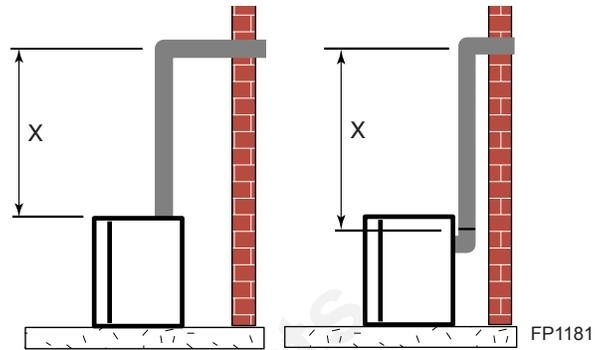

Figure 27 -
Place fireplace into position. Measure the vertical height (X) required from the base of the flue collars to the center of the wall opening. *Figure 27*